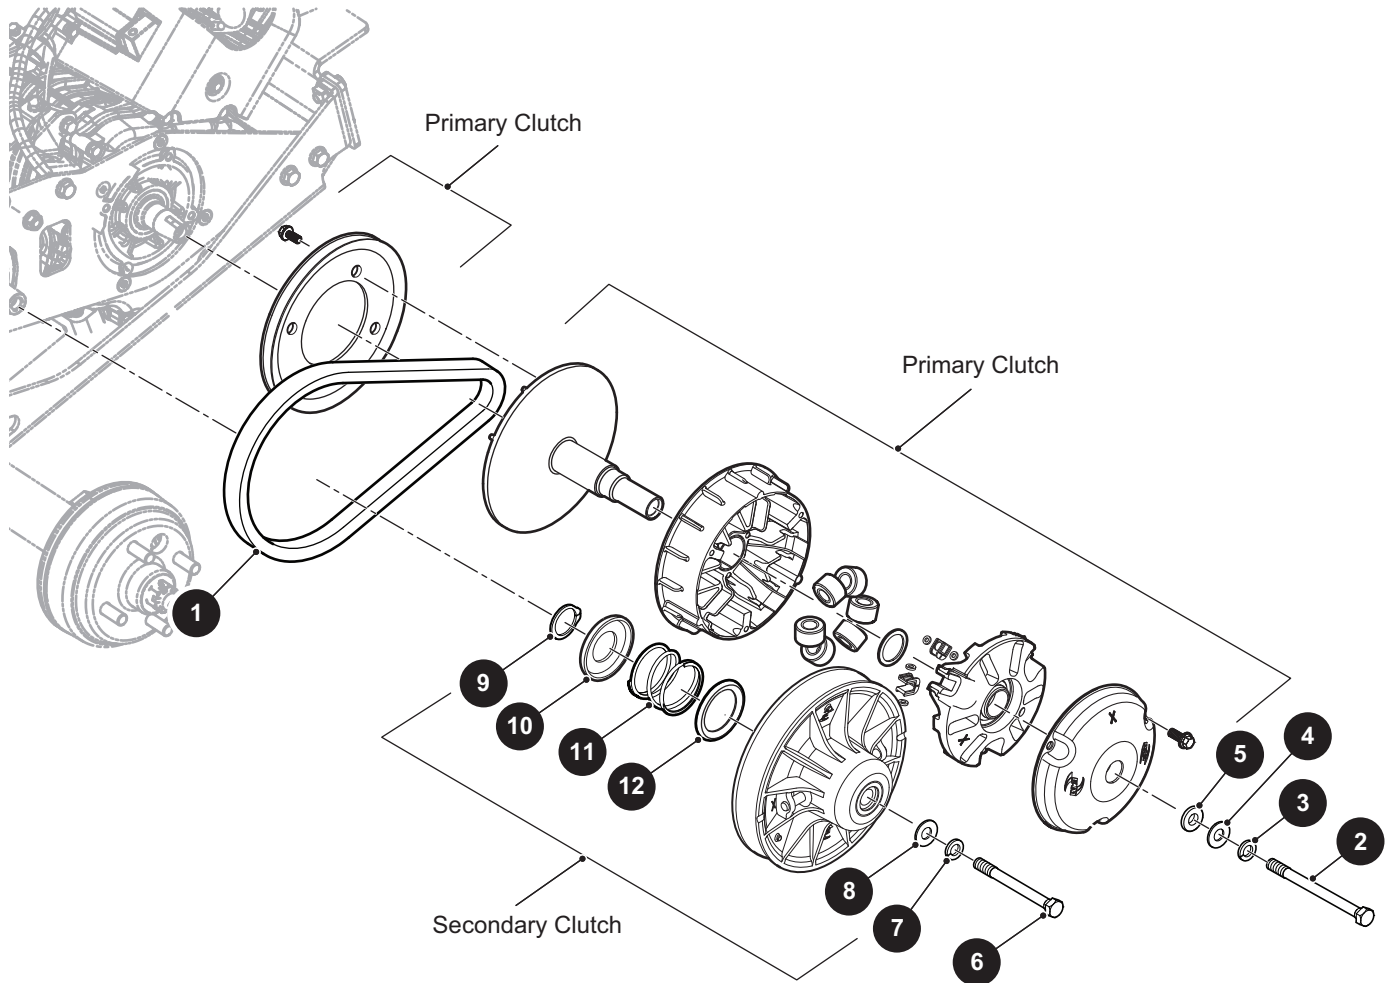

Fig. 3 CVT Components
1. Remove the CVT belt (1) (Ref. Fig. 3).
3. Remove the bolt (2) from the center of the primary clutch (Ref. Fig. 3).
2. Slide the clutch onto the engine crankshaft and rotate the clutch while lightly pushing the movable sheave in and out several times to seat the clutch on the tapered crankshaft (Ref. Fig. 3).
3. Install the lock washer (3), conical washer (4) and clutch washer (5) onto the clutch bolt (2).
4. Apply thread locking adhesive to the threads of the clutch bolt (2) and install. Tighten the bolt to the torque value specified below.
1. Remove the retaining ring (9) and remove the outer spring retainer (10) (Ref. Fig. 3).
2. Remove the spring (11), inner retainer spring (12) and the movable sheave (13).